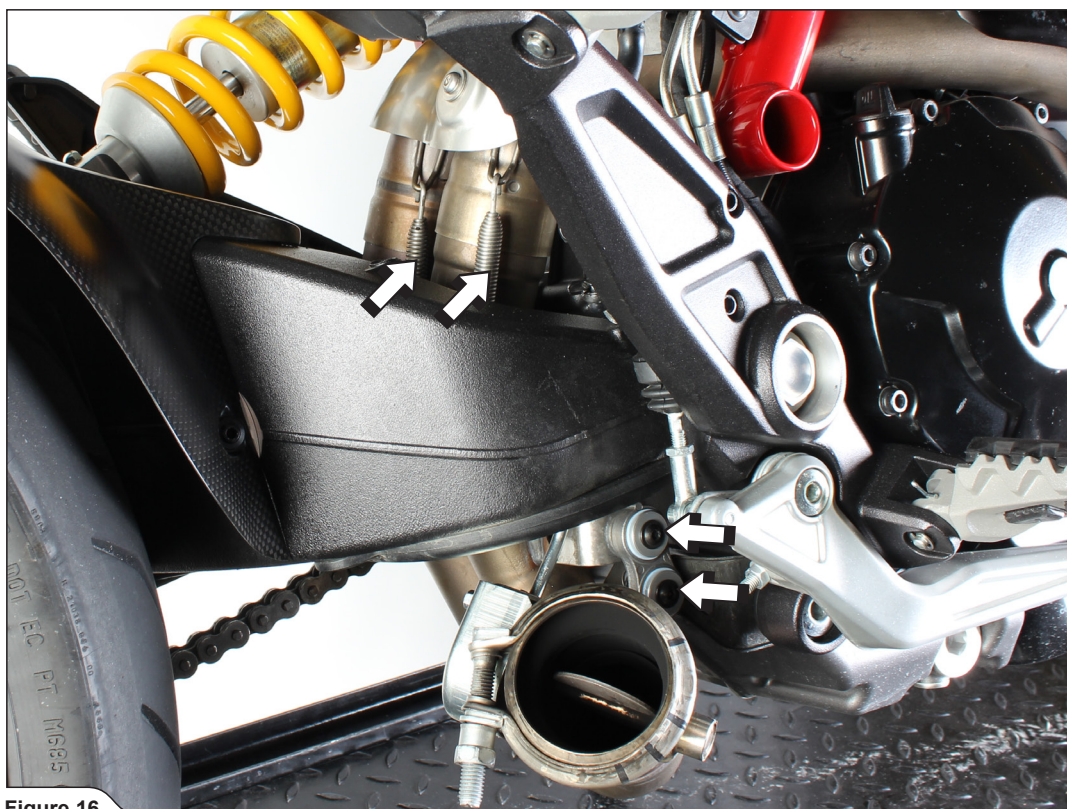

Figure 16
17. Unscrew the marked bolts, remove the link pipe's bracket, undo the marked springs and remove the collector of the motorcycle (**Figure 16**).